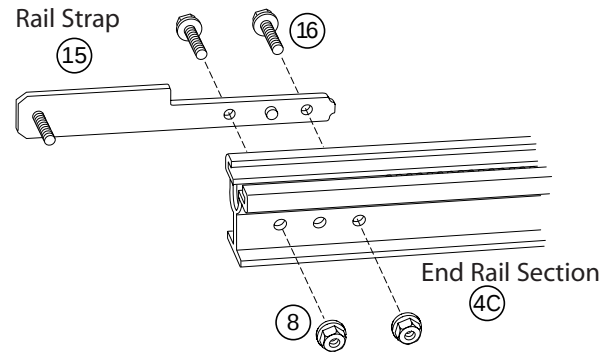

Figure 13 Attach Rail Strap
- A** Attach Rail Strap (15) to End Rail Section with 2 (1/4"-20) Hex Head Bolts and 2 (1/4"-20) Serrated Flange Hex Nuts (Figure 13).